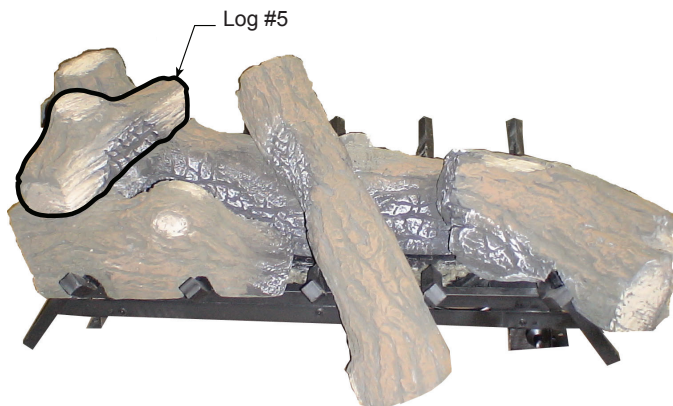

Figure 5 - Place Log #5
- Place log #5 by placing rectangular notch on bottom of log onto matching rectangular protrusion on log #2. Make sure ember or 'burnt' portion of log is facing center of burner. *Figure 5*